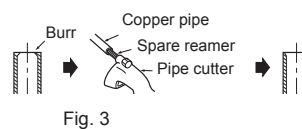

Fig. 3
- When connecting the drain hose to the hard vinyl chloride pipe, be sure to insert it securely into the pipe. (Fig. 3)
- 2) Completely remove all burrs from the cut cross section of pipe. (Fig. 3)